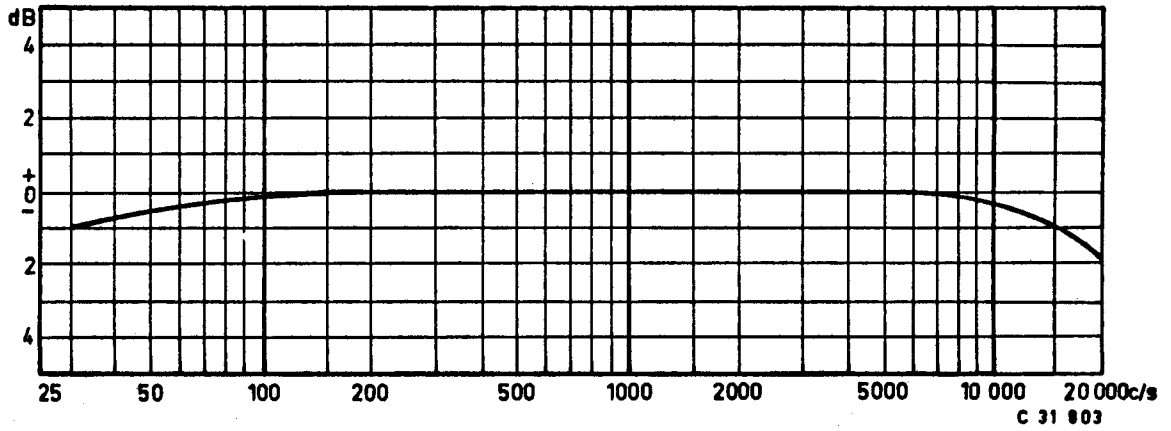

Fig3
- The values measured are shown in the characteristic of fig. 3.